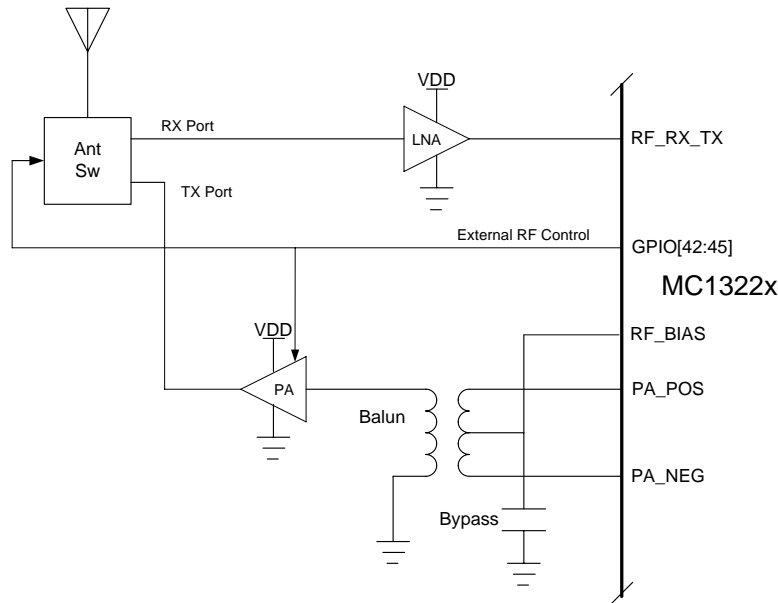

Figure 3-15. Typical MC1322x Dual Port RF Configuration using Secondary PA Outputs
- **PA\_POS** and **PA\_NEG** - a separate set of differential PA outputs are provided for a secondary TX path. The differential PA outputs are typically used with an external PA for increased output power after they are converted to a single-ended signal through a balun (see Figure 3-15).